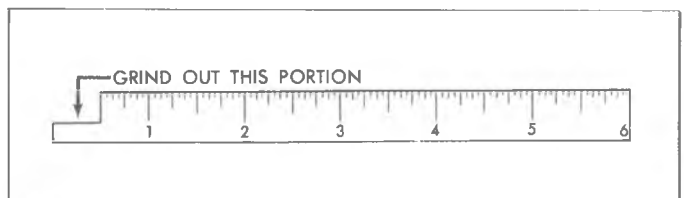

Fig. 29—Cutaway Scale
5. Check the installed height of the valve springs, using a narrow thin scale. A cutaway scale will help (fig. 29). Measure from the top of the shim or the spring seat to the top of the valve spring or valve spring shield (fig. 30). If this is found to exceed the specified height, install a valve spring seat shim approximately 1/16" thick. At no time should the spring be shimmed to give an installed height under the minimum specified.